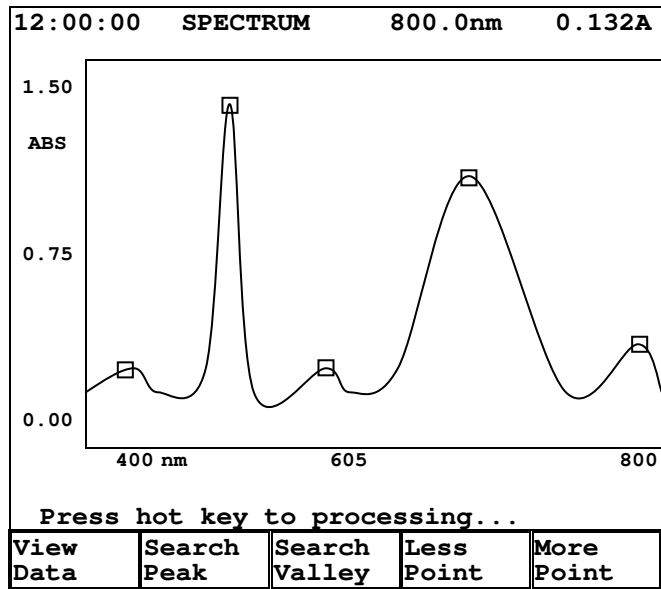

Figure 6.8 Searching peaks of the spectrum
Step 9. In the Spectrum screen, pressing function Manipulate and then function Peak Valley will get into the mode that peaks and valleys of the graph can be picked up automatically. In this searching mode, pressing F2 Search Peak will mark all peaks in the graph (Figure 6.8). Functions F4 and F5 will let users to adjust the number of points being picked. Detailed